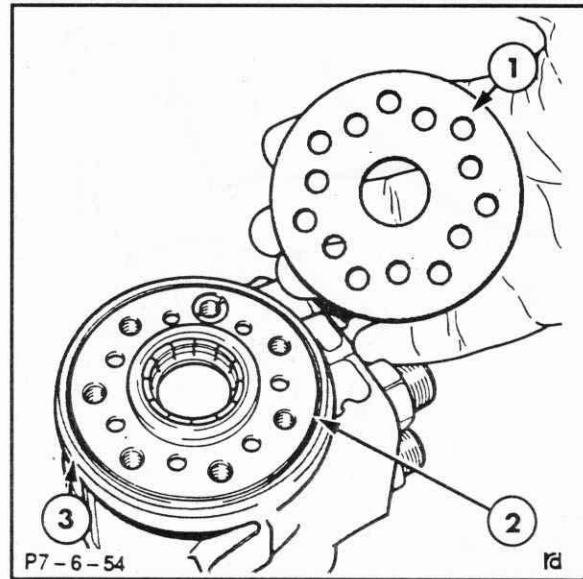

Figure 7-40
12. Install an "O" ring in the groove of the steering motor housing, Figure 7-40.
13. Position the manifold plate, Figure 7-40, on the housing so that all the holes are aligned.